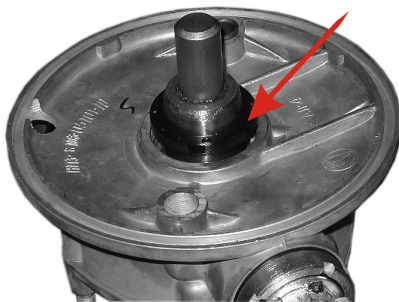

Fig. 90.
- Oil the circumference of collar 45-60-8 with transmission oil, pack the cavity between collar lips with grease and press the collar into the final drive case using the mandrel (Fig. 90).